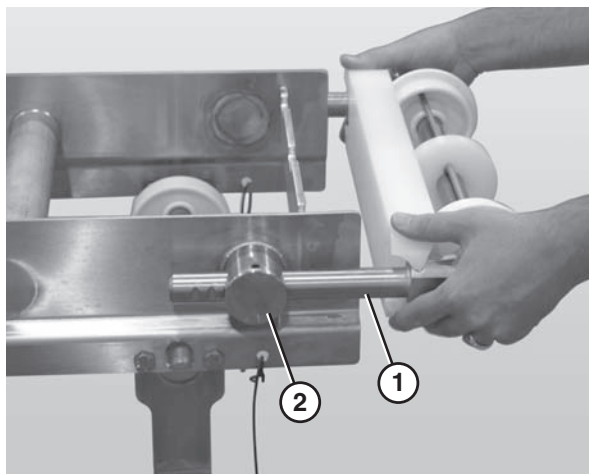

Figure 26
1. Slide the bearing shafts (**Figure 26, item 1**) into the take up blocks (**Figure 26, item 2**).